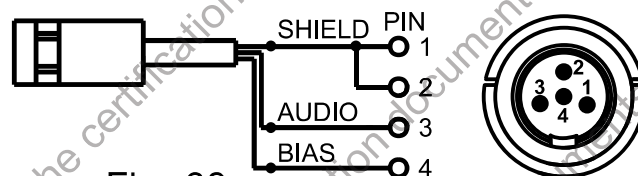

Fig. 38
2. 3-wire electret condenser microphone capsule connection. Fig. 38: